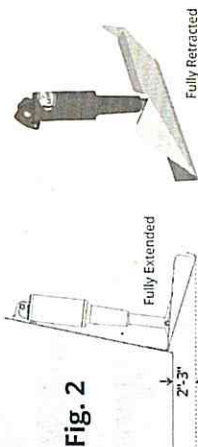

Fig. 2
1. To properly position the upper mounting against the transom, first fully extend the Lenco actuator as far as it will go. You can do this by turning the actuator counter clockwise until it free wheels at the end of its stroke OR touch the power wires to a 12V DC Source (Example: a drill battery). Once the actuator is fully extended, loosely attach the upper mounting bracket to the top of the actuator and the bottom of the actuator to the lower mounting c-channel's first hole (the one closest to the hinge) using the bolts, spacers, and nuts provided. Then position the trim tab to the desired level below the bottom of the boat. We recommend 2" - 3" measured from a straight edge or level from the bottom of the boat to the trailing edge of the trim tab. (See Fig. 2)
No Voltage from the battery	Check the in line fuse/breaker making sure it's not blown or tripped. See switch wiring diagram for fuse/breaker size. (See Fig. 2)